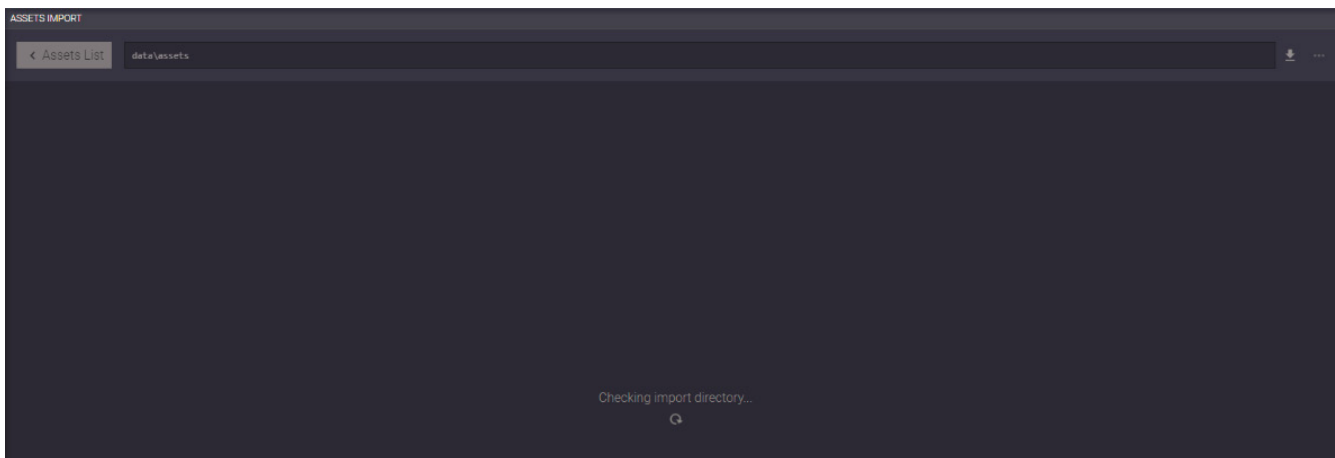

Figure 57 Checking Import Directory
- While the directory is being searched, the following screen (Figure 57) is displayed: